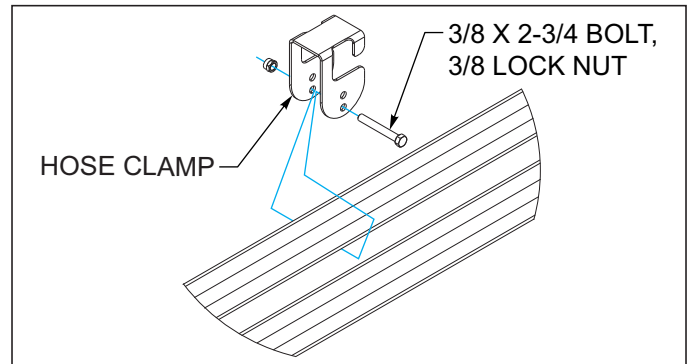

Figure 3-10: Hose Clamp Installation
11. Attach hose clamps to the center and wing frames **See Figures 3-10** using 3/8 x 2-3/4 hex head cap screws and 3/4 lock nuts.